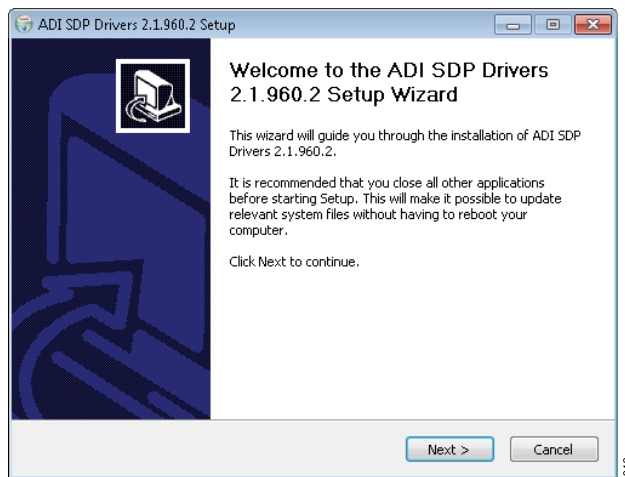

Figure 13. SDP Driver Setup Wizard
2. When the SDP drivers setup wizard appears, click **Next** (see Figure 13).